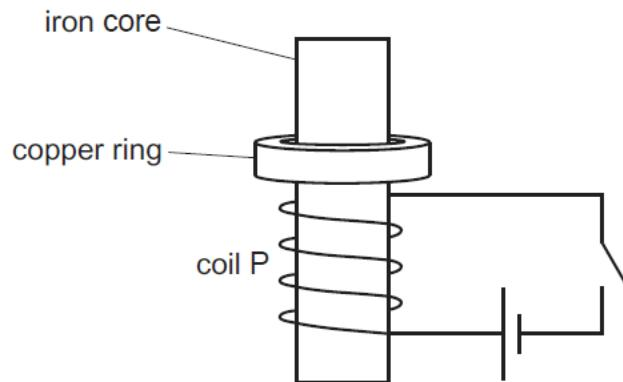

Fig. 5.4
- (d) Coil S in (b) is now replaced with a copper ring that rests loosely on top of coil P. The supply to coil P is replaced with a cell and a switch that is initially open, as shown in Fig. 5.4.